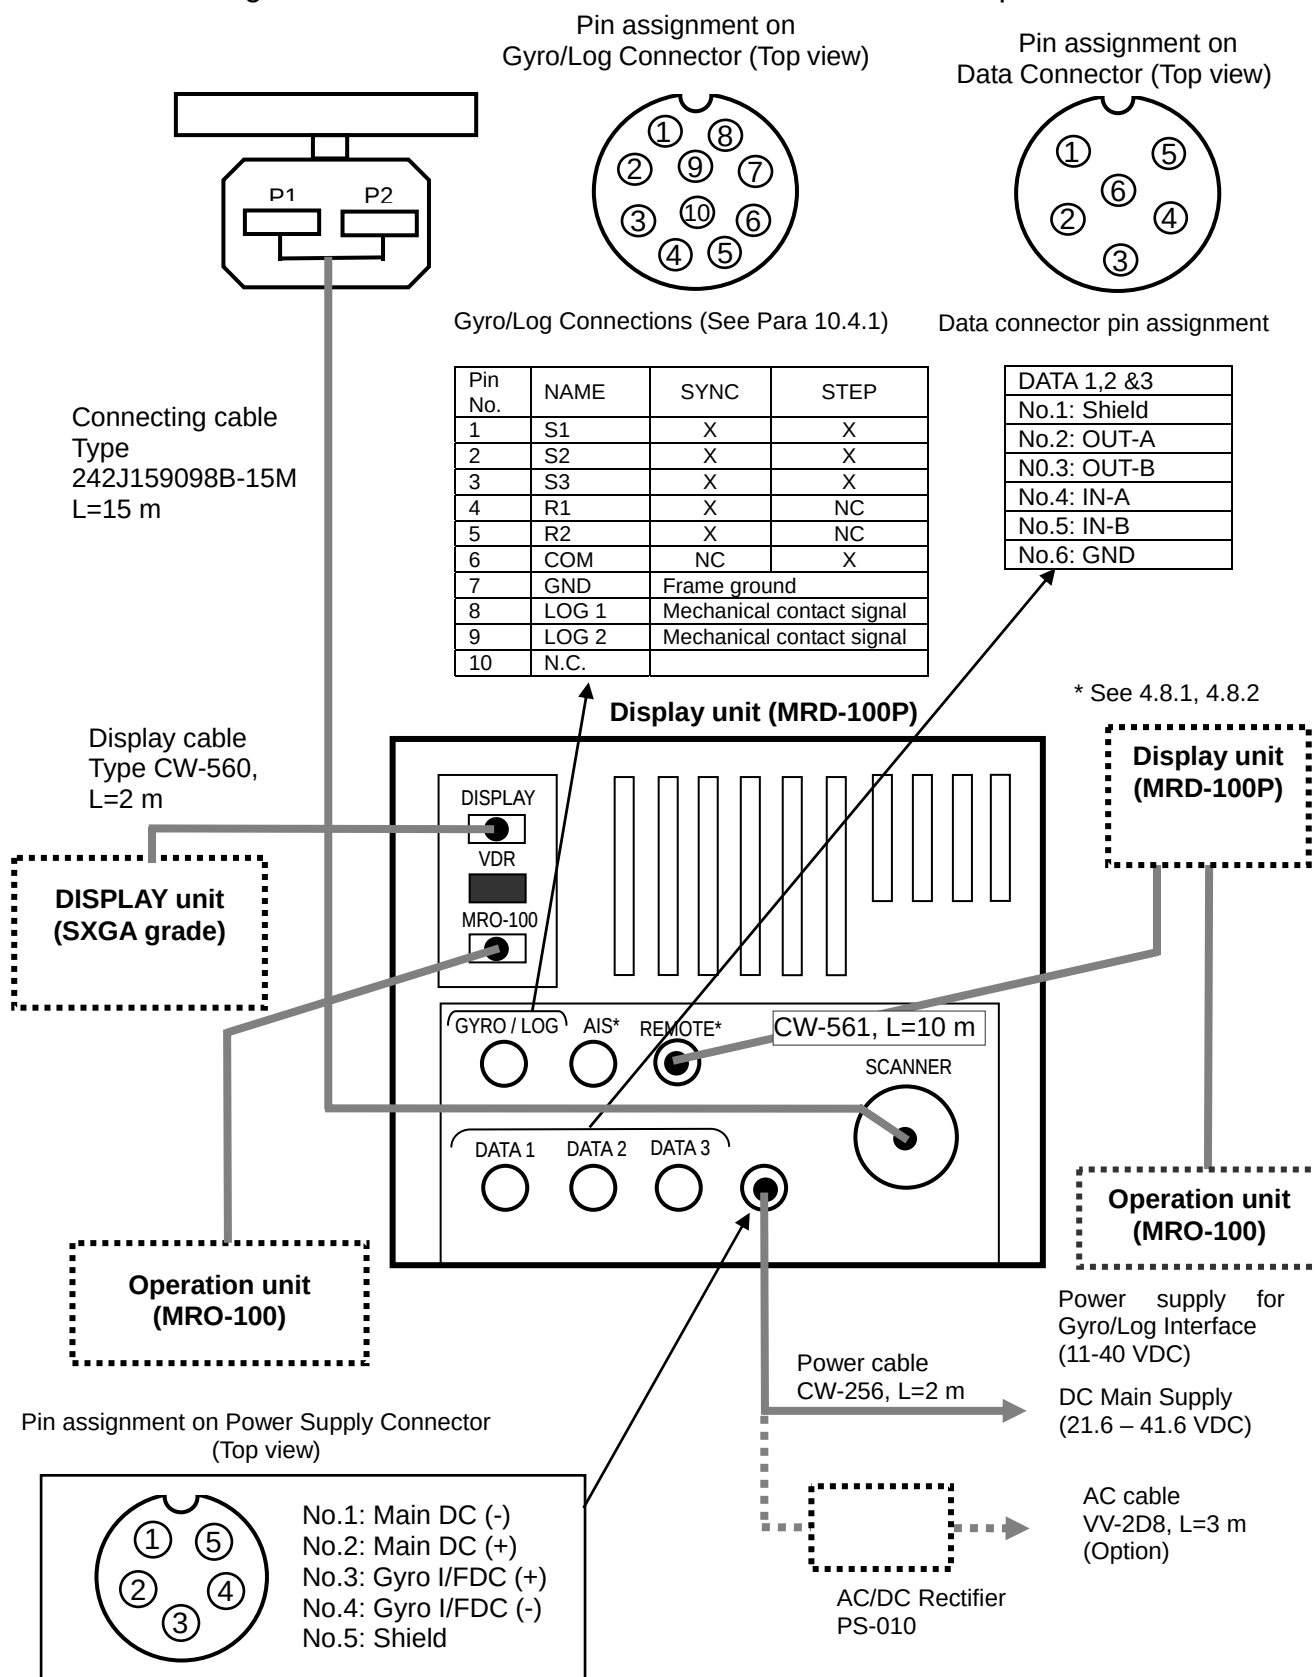

Figure 4.15 Cable connections on the Processor Unit
- (1) Remove the mounting bracket from the Operation unit.
- (2) Remove a screw cover, which is fitted on each corner of the Operation unit front face.
- (3) Put the Operation unit and connecting cable into the aperture flush with the panel surface. Connect the cable to the Display unit at the specified receptacle. (Refer to Figure 4.15)
- (4) Fasten the Operation unit to the panel using a 4 mm tapping-screw. (4 positions)